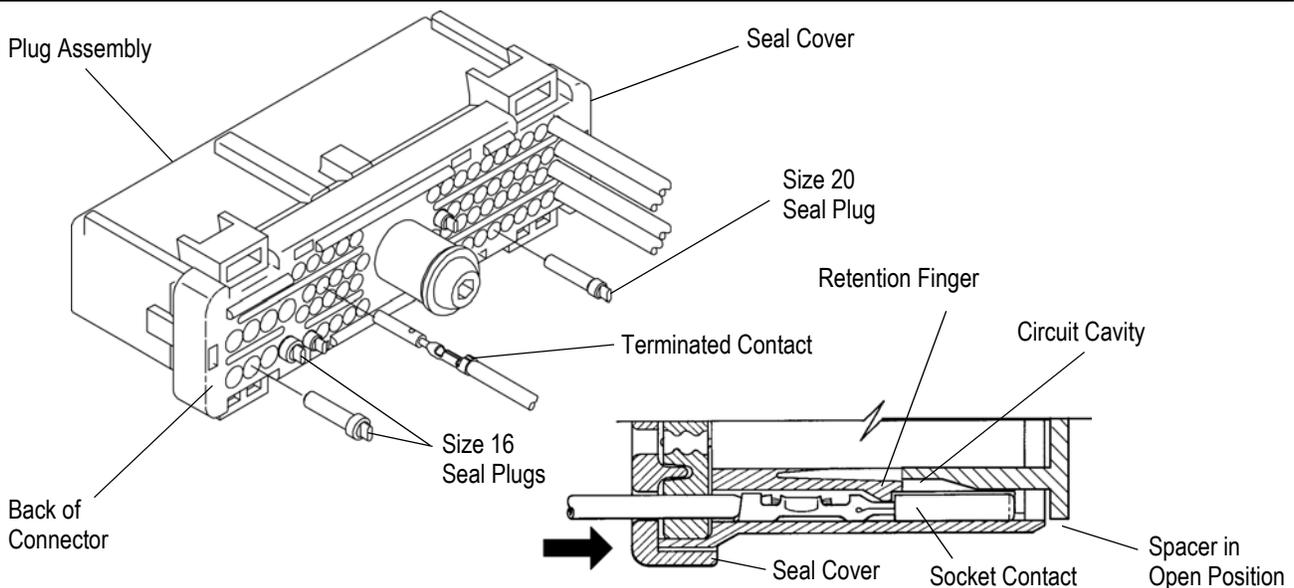

Figure 2
*The back of the connector must be completely sealed. Those cavities that are not used must have individual seal plugs. Use seal plug 776363-1 for size 16 holes, and seal plug 776364-1 for size 20 holes. See Figure 2.*
Check to be sure the plug spacer is in the open, or as-shipped position. See Figure 2. Proceed as follows:
1. To insert a terminated contact, push it straight into the appropriate circuit cavity as far as it will go. See Figure 2.